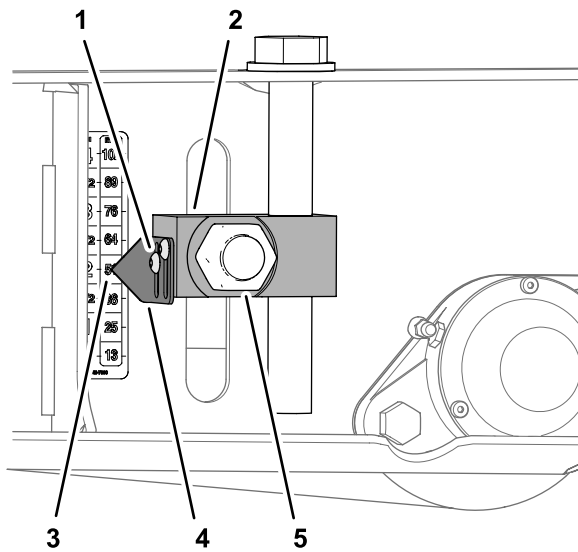

Figure 84
- Loosen the socket-head screws that secure the 2 pointers to the height-of-cut adjuster block, align the pointers to the 51 mm (2 inches) mark on the decal, and tighten the screws (**Figure 84**).
7. Torque the 4 nuts that secure the 4 height-of-cut adjuster blocks (Figure 82 and Figure 84) for the front and rear rollers to 322 to 396 N·m (238 to 292 ft-lb).